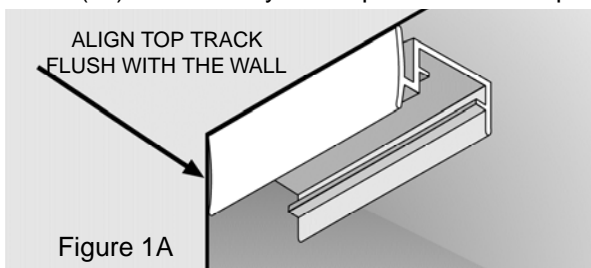

Figure 1A
- C. Hold the cut Top Track (#2) along the top of the closet opening and flush with the outside edge of the opening (See Figure 1A). With the Top Track (#2) in place, use your Pencil to mark the position of the pre-drilled holes in the Top Track (#2). Set the Top Track (#2) aside while you complete the next step.